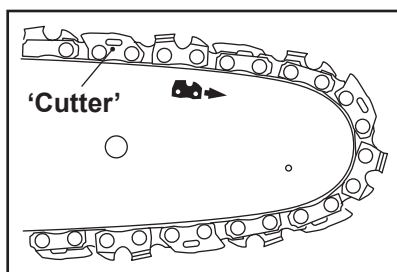

Fig. 6
4. Spread the saw chain (14) out with the cutting edges of the chain pointing in the direction of rotation.
Slide the saw chain (14) into the groove around the guide bar (13). Ensure saw chain (14) is installed in correct direction of rotation. (Fig. 6)